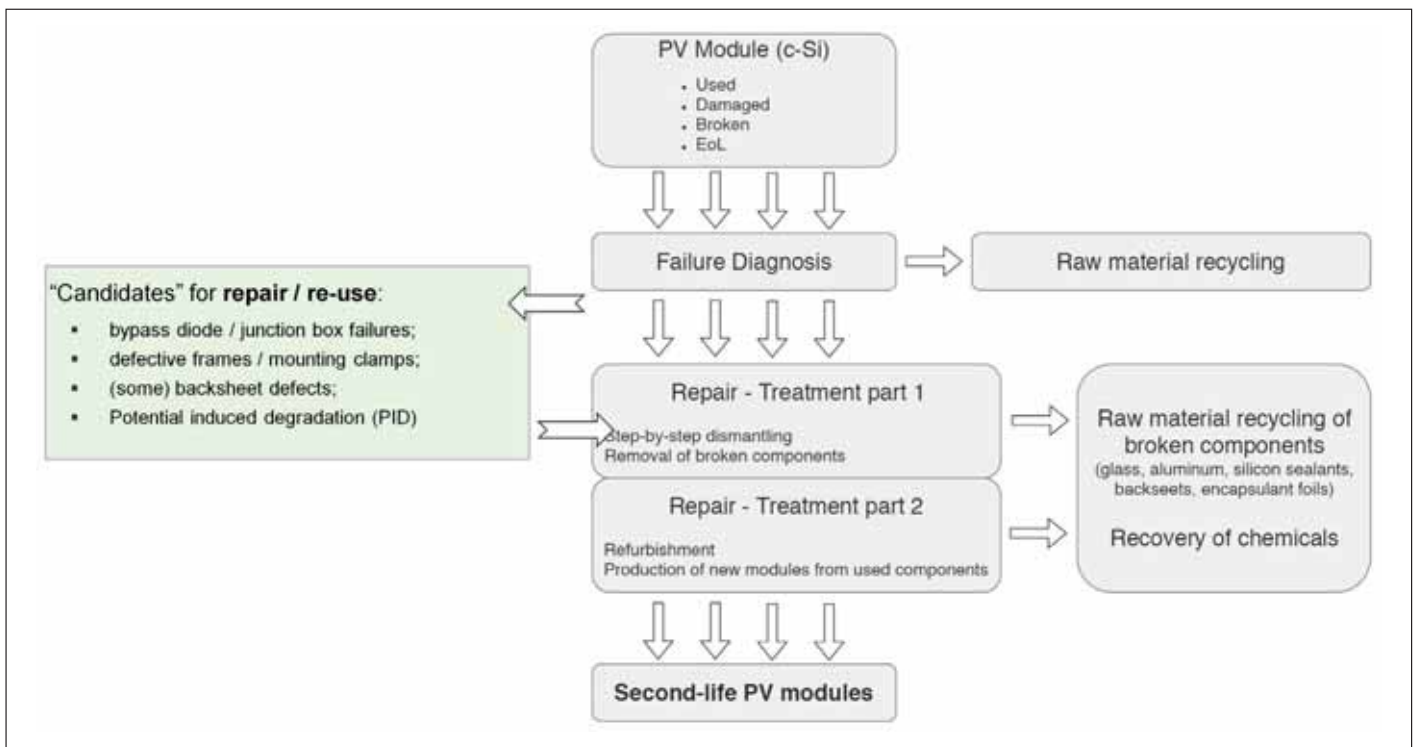

Figure 5. An adapted procedure towards second-life PV, based on the “PV-Rec” concept of J. Glatthaar et al. [8]
"PV-Rec", a practical tailor-made repair/recycling process for individual PV modules based on a reliable failure analysis and selection procedure (Figure 5). In that approach, visual inspections of EoL or failed PV modules are complemented by electroluminescence (EL) and/or infrared (IR) imaging measurements [9] and I-V characterisation, similarly to the task flow described above. In this way, module defects/failures are accordingly quantified and classified, so that the most appropriate recycling or repair procedure can be assigned to each module. In the same study, refurbishment could ideally be achieved by eliminating module defects in single repairs, which fully restore PV modules' operational status.